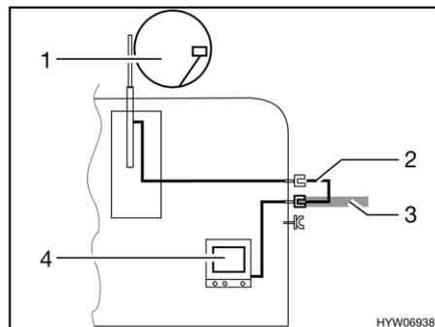

Fig. 121 TV inside the vehicle
- TV inside the vehicle (Fig. 121,4): Connection to roof antenna (Fig. 121,1) with connection cable (Fig. 121,2)
- TV inside the vehicle (Fig. 121,4): Connection to external antenna (Fig. 121,3)